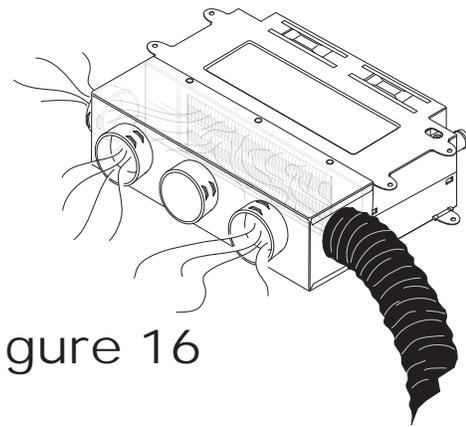

Figure 16
NOTE: An accessory device is available for the Cozy Heat Exchanger for the purpose of redirecting the airflow from the heat exchanger. Reference Figure 16.
3. Install the hot-air outlet and cold-air return registers. Reference Figure 16.